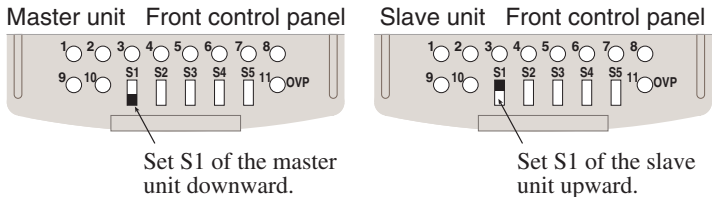

Fig.4-21 Presetting of control switches for master-slave-control series operation
5. Set the control switch S1 of the master unit and slave units to the positions shown in Fig.4-21.